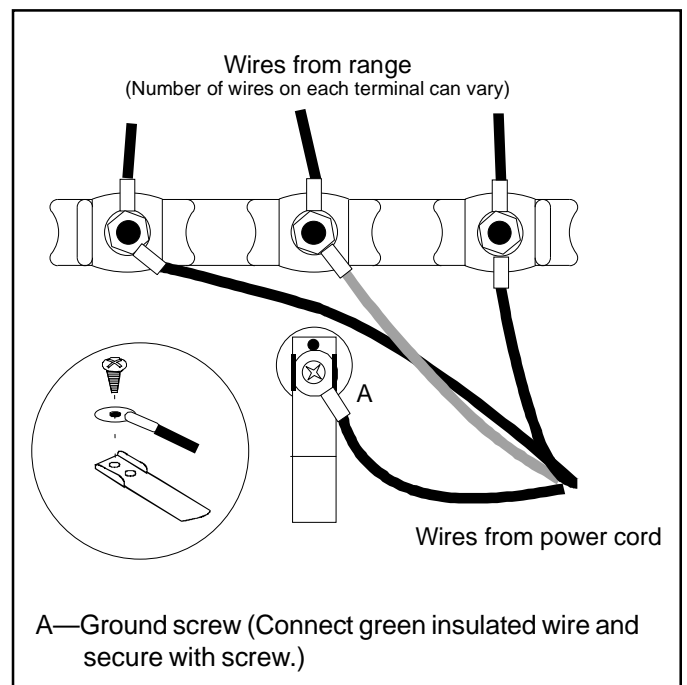

Figure 10
8. See Figure 10. Position grounding strap down and away from terminal block. Attach green or bare wire and grounding strap to back of range using green ground screw previously removed in step 3.